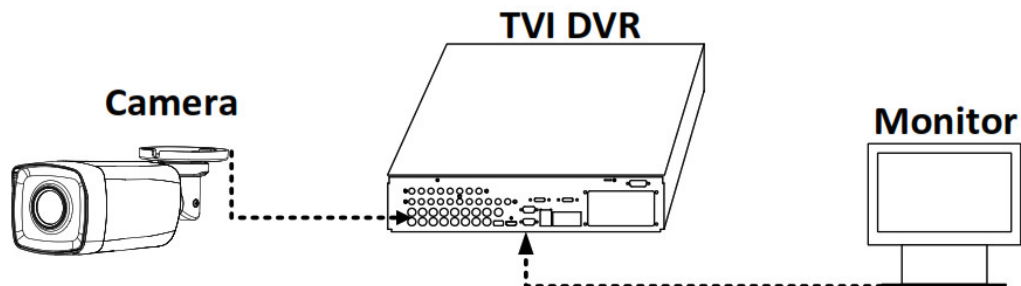

Figure 3-1 Connection
1. Connect the camera with the TVI DVR and the monitor, as shown in the figure 3-1.